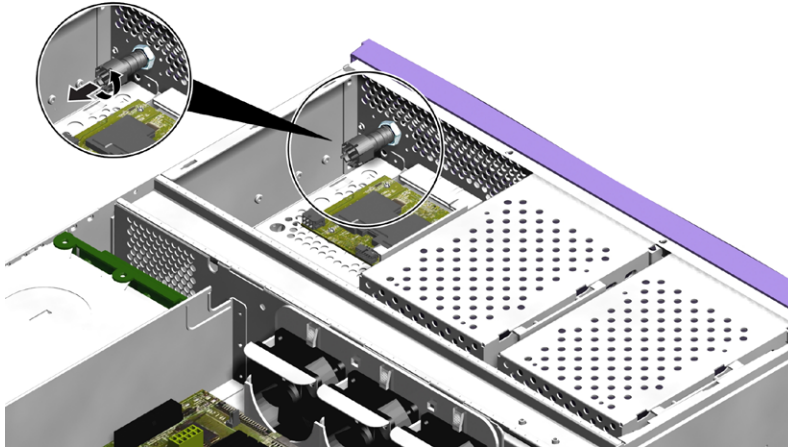

FIGURE 1-29 Disconnecting the Keyswitch Wiring Harness
4. Disconnect the wiring harness from the back of the keyswitch assembly (FIGURE 1-29).